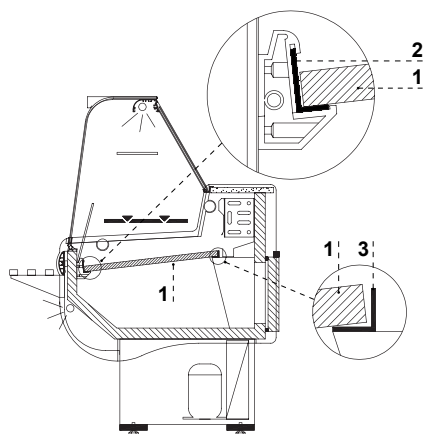

Fig.3 Assembly of display shelves
1. Mount display shelves Fig.3/1 (p.14)